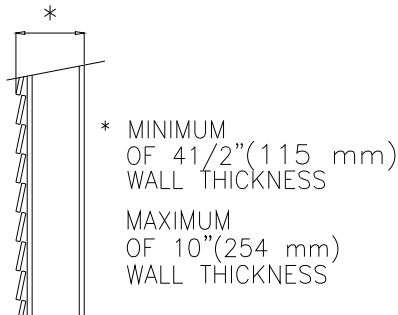

Figure 15
1. Measure thickness of the wall as shown in figure 15.
2. If pipes (B), (C) and the rod are long, trim them according to thickness of the wall, as shown in the following table.